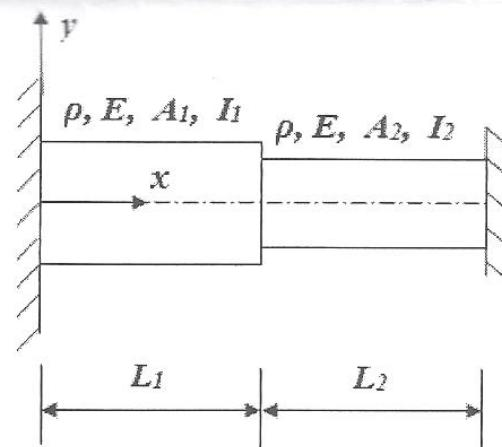

Figure 11b
- B Consider the problem shown in Figure 11b for the calculation of natural frequencies of transverse vibrations of a beam. Write all the necessary inputs required for preprocessing of this problem. (DO NOT solve the problem) 10